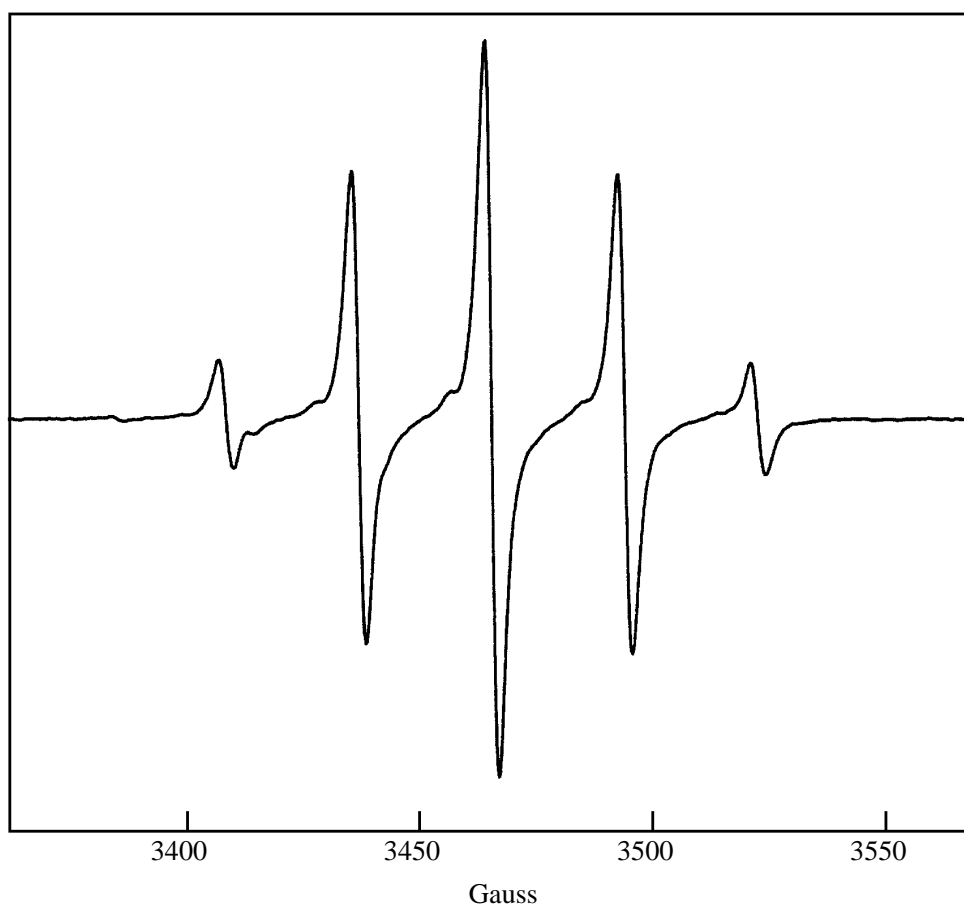

Figure 3.4 The ESR spectrum of $\text{trans-}[\text{Cr}(\text{CO})_2(\text{dppe})_2]^+$ in DCM.
Record the IR spectra (in DCM, in the region $2200-1700\text{ cm}^{-1}$) of $[Cr(CO)_2(dppe)_2]$ and the oxidation product (A). The ESR spectrum of (A) is shown in Fig 3.4.